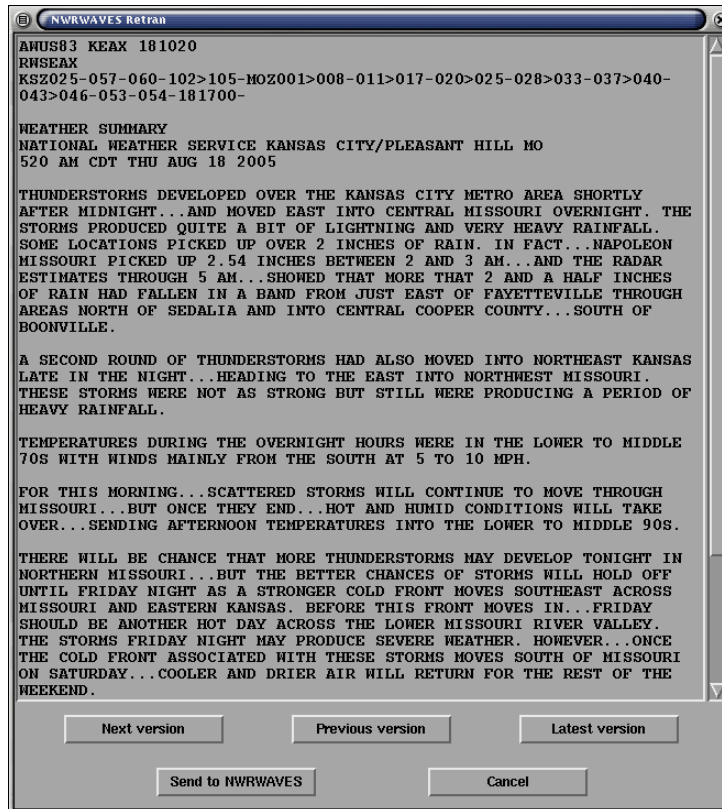

Figure 11 – NWRWAVES Retransmit product GUI interface
- c. **Regenerate a BMH message** – Allows a user to call an AWIPS PIL from the text database and reprocess the product through the NWRWAVES formatter. When this option is selected, the user is prompted to enter an AWIPS product identifier then click ‘OK’. The latest version of the product will appear in the ‘Regenerate Product’ GUI (Figure 11). Sites can toggle between database versions of the product type by using the “Previous Version” or “Latest Version” buttons. Once you have the product you wish to re-transmit in the viewer, click the “Send to NWRWAVES” button to re-process this product.